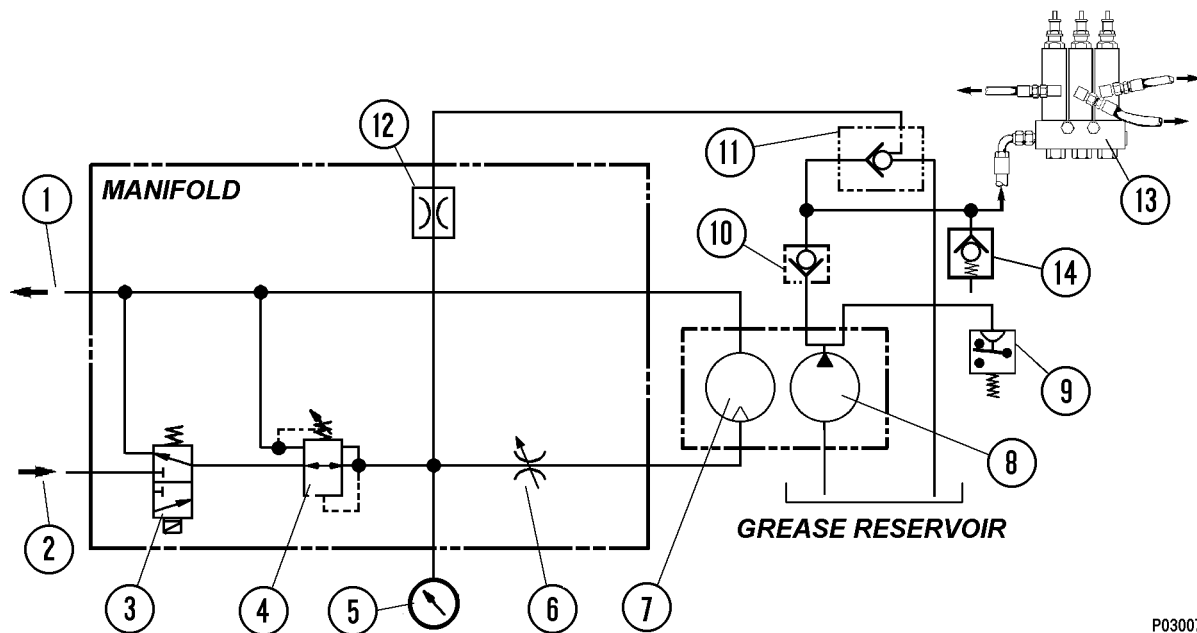

FIGURE 3-3. HYDRAULIC SCHEMATIC
The solid state lubrication cycle timer provides a 24 VDC timed-interval signal to energize solenoid valve (3, Figure 3-3) providing oil flow to operate the grease pump motor. This timer is mounted in the Electrical Interface Cabinet.
Relief valve (14, Figure 3-3) protects the pump from high pressures. This relief valve is set at 27 580 kPa (4,000 psi).
2. The timer provides 24VDC to energize the pump solenoid valve (3, Figure 3-3), allowing hydraulic oil provided by the truck steering pump circuit to flow to the pump motor and initiate a pumping cycle.
3. The hydraulic oil from the steering circuit is directed through the pressure reducing valve (4) and flow control valve (6) before entering the motor. Pump pressure can be read on optional pressure gauge (5) mounted on the manifold.
4. With oil flowing into the hydraulic motor, the grease pump will operate, pumping grease from the reservoir to the injectors (13), through a check valve (10) and to the vent valve (11).
7. After the pump solenoid valve is de-energized, hydraulic pressure in the manifold drops and vent valve (11, Figure 3-3) will open, releasing grease pressure in the lines to the injector banks. When this occurs, the injectors are then able to recharge for the next lubrication cycle.